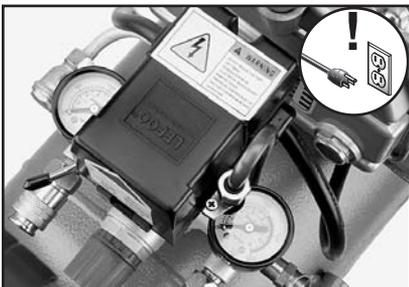

Figure 21. Pressure switch cover.
4. Using a #2 Phillips screwdriver, remove the switch cover shown in **Figure 21** and hinge back the cover and set it aside.